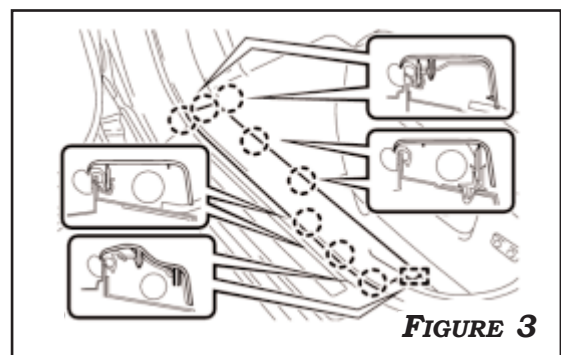

FIGURE 3
3. DISENGAGE THE 8 CLIPS AND REMOVE THE DRIVER SIDE DOOR SCUFF PLATE. DISENGAGE THE CLIP AND GUIDE, AND REMOVE THE KICK PANEL. **FIGURE 3**